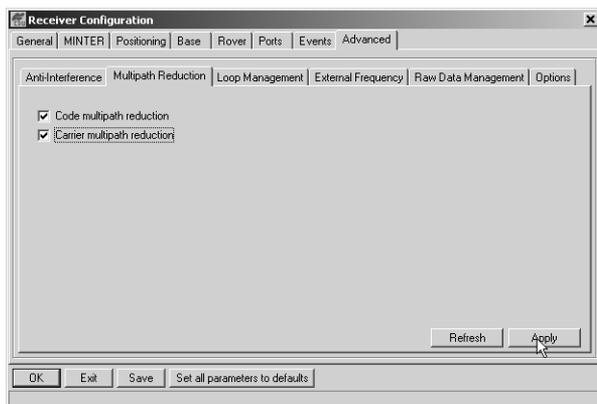

Figure 3-8. Advanced->Multipath
3. Click the **Advanced** tab and then the **Multipath** tab, set the following parameters, then click **Apply** (Figure 3-8):